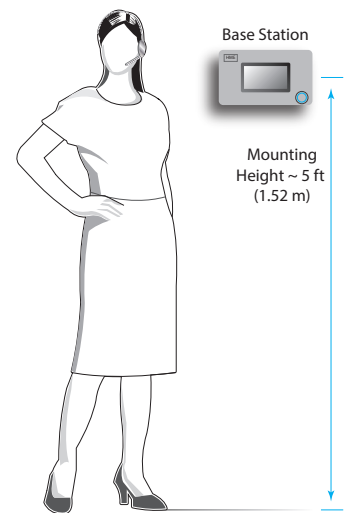

Fig. 2.1
2. Mount the Base Station at an optimal height from the floor with the touchscreen visible and within easy reach for comfortable operation with fingers. The recommended mounting height is 5 feet (1.52 m), see Fig. 2.1.